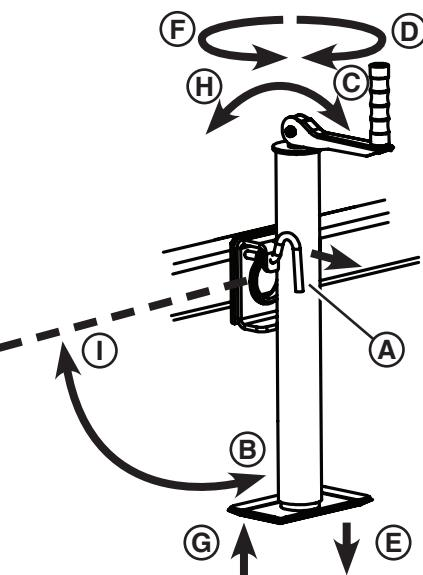

Figure 6
1. Pull the lock lever (**A**, Figure 6), rotate the tongue jack into the operating position (**B**), and release the lock lever. Make sure the lock lever engages the locking hole and is secure.
2. Unfold the crank handle (**C**, Figure 6).
- Turn the jack handle clockwise (**D**, Figure 6) to lower the jack foot (**E**) and raise the front of the light tower trailer.
- Turn the jack handle counter-clockwise (**F**, Figure 6) to raise the jack foot (**G**) and lower the front of the light tower trailer.
- Fold the crank handle (**H**, Figure 6).
- Pull the lock lever (**A**, Figure 6), rotate the tongue jack into the transport position (**I**), and release the lock lever. Make sure the lock lever engages the locking hole and is secure.